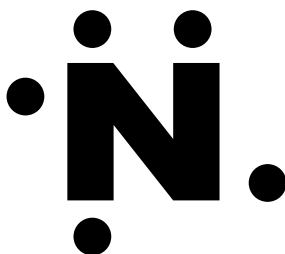

Figure 3
- d. To represent these valence electrons, arrange 5 candies on the index card around the N in the pattern shown in Figure 3.